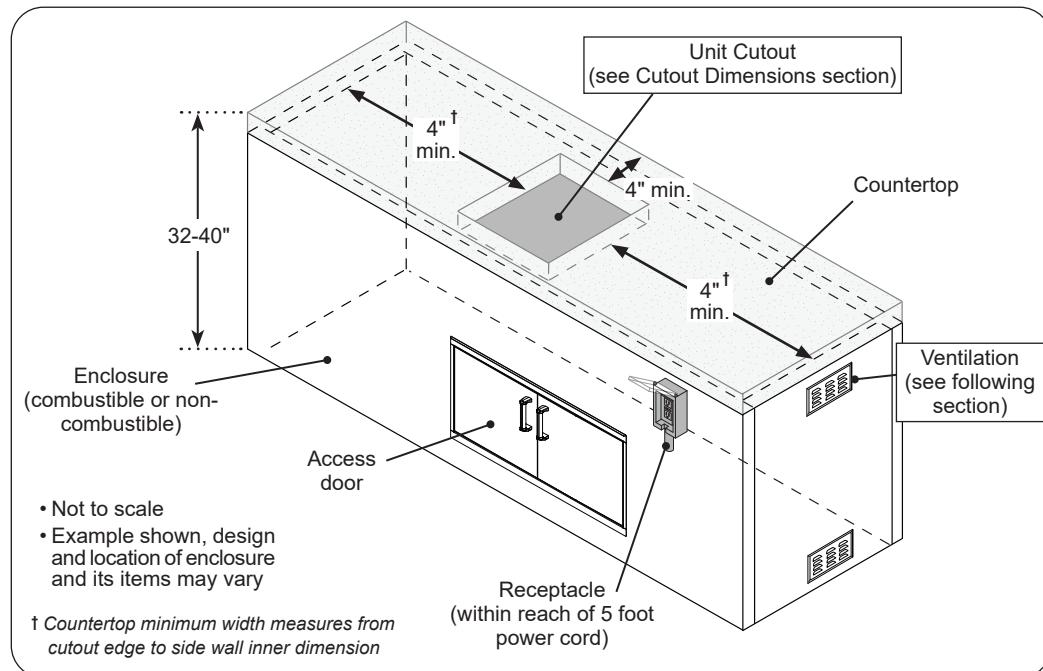

Fig. 12-1 Enclosure specifications
The enclosure can be constructed according to your individual preference, while following all guidelines found in this manual. The enclosure **MUST** (see Fig. 12-1):
- have the minimum dimensions specified in Fig. 12-1
- meet all requirements found in Fig. 12-1 and the following sections